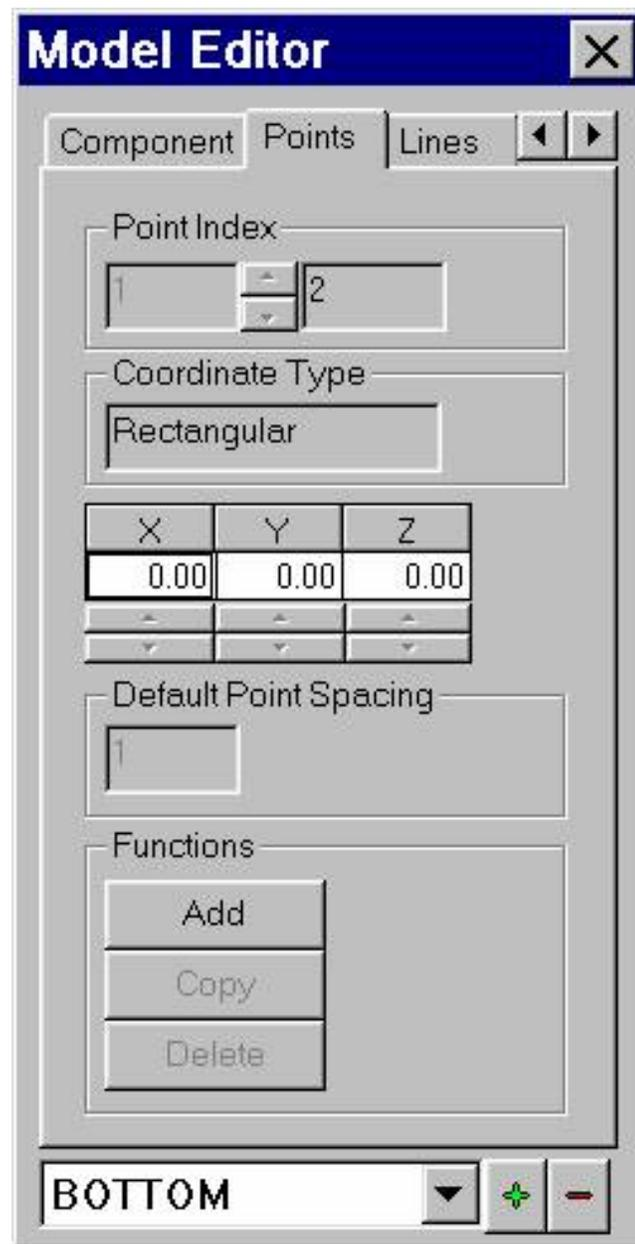

Figure 5
12) Click the Points tab (see Figure 5)